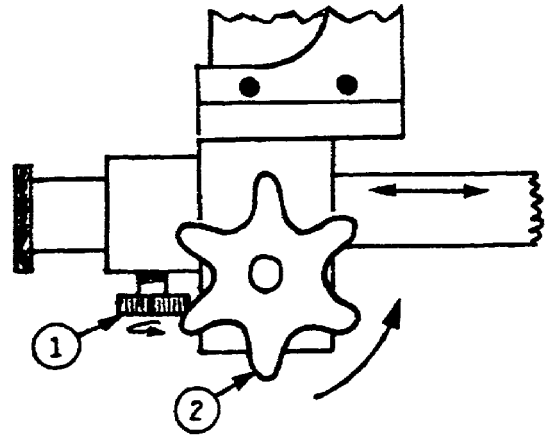

Figure 1-34. Carriage Knobs.
the front and rear carriage lock knobs 1 (fig 1-34) enough to allow the front and rear carriages to slide on the monorail bed when the front and rear carriage adjust knobs ② are rotated.
(3) Increase or decrease the distance between the front carriage and rear carriage by turning the carriage adjust knobs ② until the object or scene to be photographed appears on the ground glass.